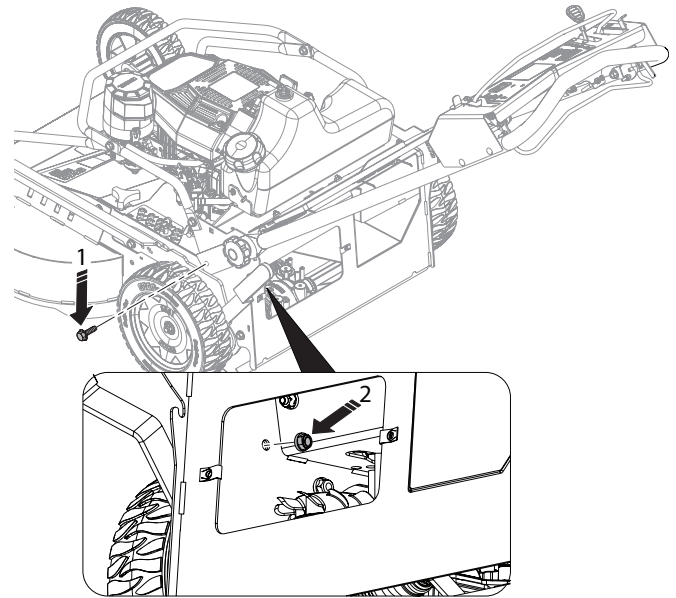
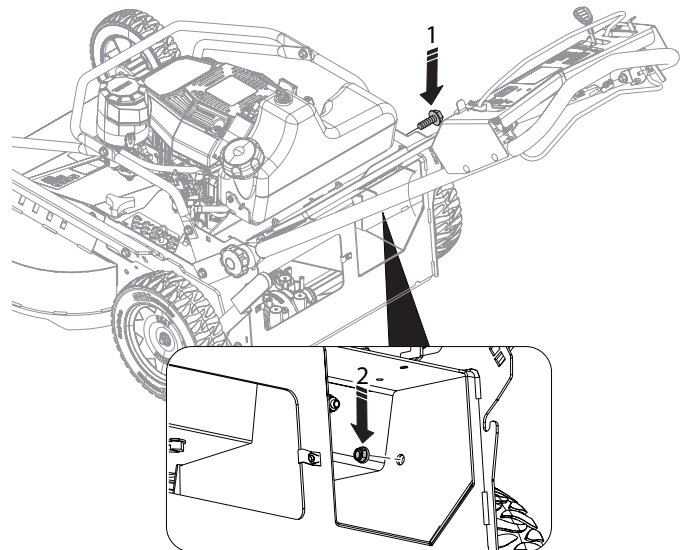

Figure 1-7. Lower Left Handle Bar Mounting Hardware
Figure 1-8. Lower Left Handle Bar Mounting Hardware
6. While holding the handle bar assembly in place, install the lower handle bar mounting hardware. See Figure 1-7 and Figure 1-8.